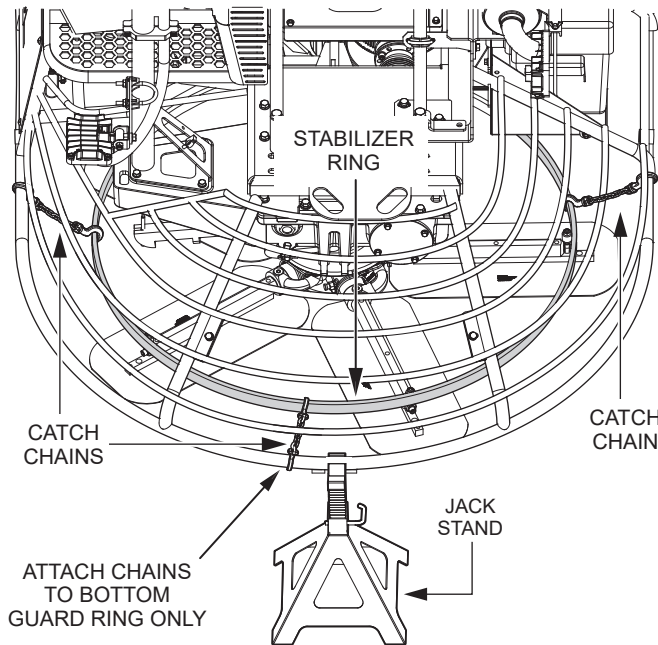

Figure 3. Preparing For Spider Removal — Machines With A Stabilizer Ring
1. Place the trowel on **heavy-duty jack stands** (Figure 3) on secure, level ground in an area that is free of dirt and debris.
2. Attach one end of three equally spaced straps or **catch chains** to the **stabilizer ring** (Figure 3). Attach the other end of these straps or chains to the **bottom guard ring** in a manner that would prevent the spider assembly from falling.